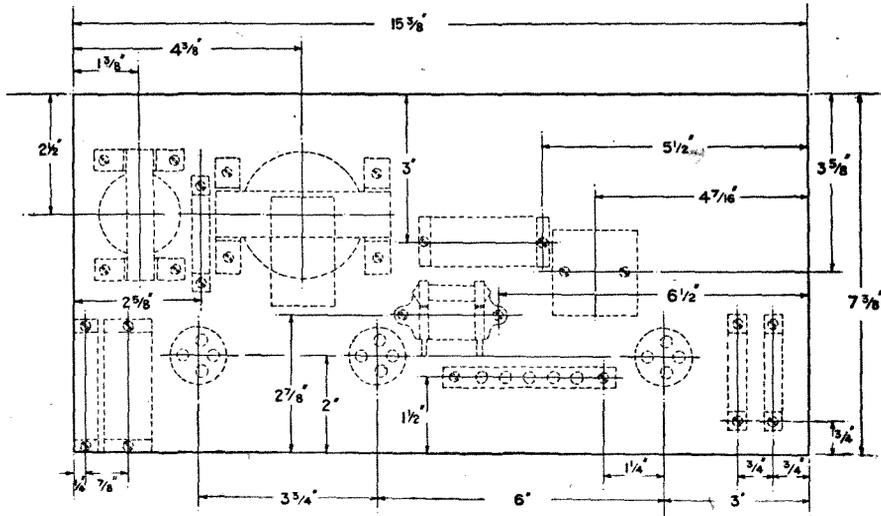
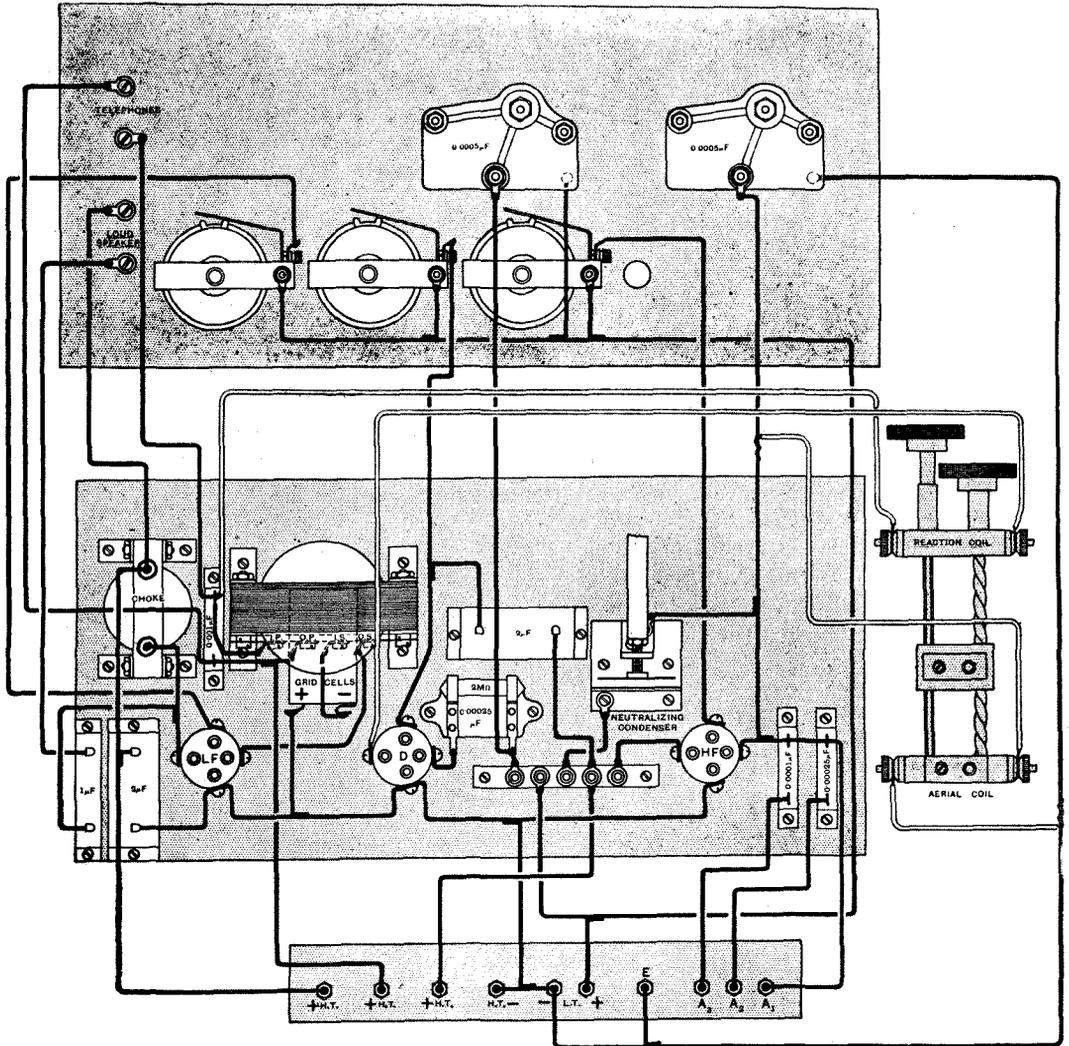

Fig. 5. Layout of components on baseboard. (1/4 full size).
Fig. 7. Complete wiring diagram of the Super-Sensitive receiver.
The position of the components mounted on the baseboard is given in Fig. 5, and the parts may easily be identified from the layout of Fig. 7. It will be seen that fixed condensers of 0.0001, 0.00025 (2), 0.001, 0.5 and 2.0 (2) microfarads are required, with a 2 megohm grid leak, 3 valve holders,
Having assembled the receiver, it may be wired, but before commencing the wiring it will be found convenient to remove the variable condensers in order that the wires may easily be secured to the filament resistances. If a fairly stiff wire such as No. 16 tinned copper is employed, there will be no need to use insulating sleeving. The wiring is clearly shown in Fig. 7. It will be observed that four flexible wires are employed to connect the reaction and aerial coils to the remainder of the receiver. These flexible wires are passed through holes in the side of the box.